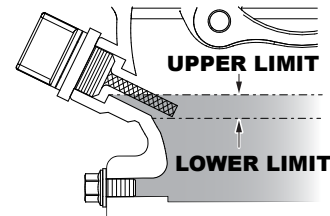

Figure 5. Engine Oil Dipstick (Oil Level)
4. If the oil level is low (Figure 5), fill to the edge of the oil filler hole with the recommended oil type (Table 5). Maximum oil capacity is 2.33 pints (1.09 liters).